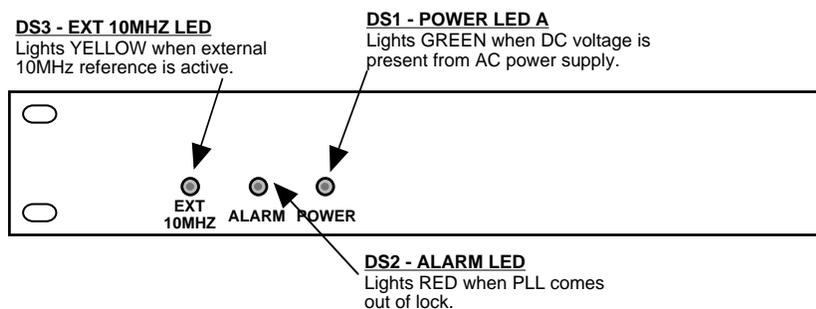

FIGURE 2.2 2116-13T11 Front Panel Controls and Indicators
Figure 2.2 shows the front panel indicators.
4. Be sure DS1 (green, DC Power) is on and DS2 (red, Alarm) is off (Figure 2.2).
6. If EXT is selected or AUTO is selected and there is a 10MHz, 3 dBm signal at J2, check that DS3 (yellow, Ext 10MHZ) is on (Figure 2.2).